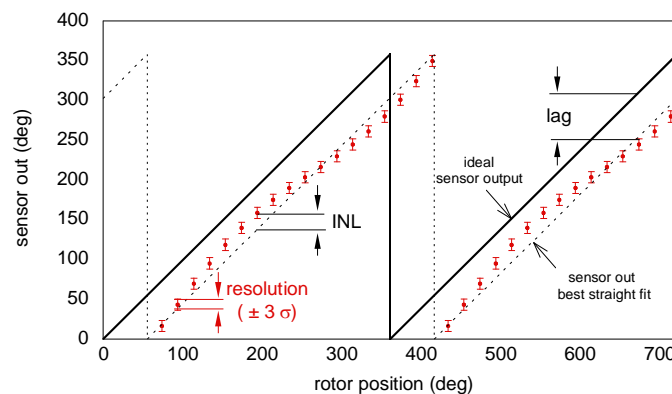

Figure A1: Absolute Angle Errors
- Integral Non-Linearity (INL)** Maximum deviation between the sensor output and the best line fit (see Figure A1).